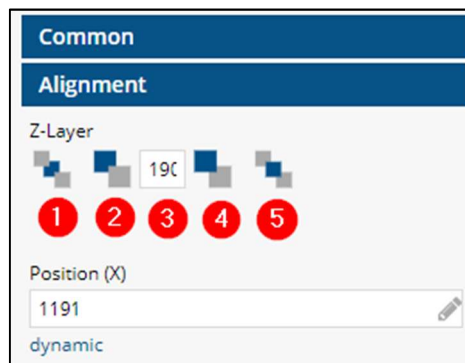

Fig. 190: Z-Layer function in the RISC view
If an element is selected, tabs with different editing options appear on the right side of the screen. In addition to the previous size and position settings, the **Z-Layer** function is available on the **Arrangement** (formerly **Size**) tab. This function specifies the order in which elements overlap each other. The element with a higher position number overlaps the element with the lower number (see (3) in Fig. 190).